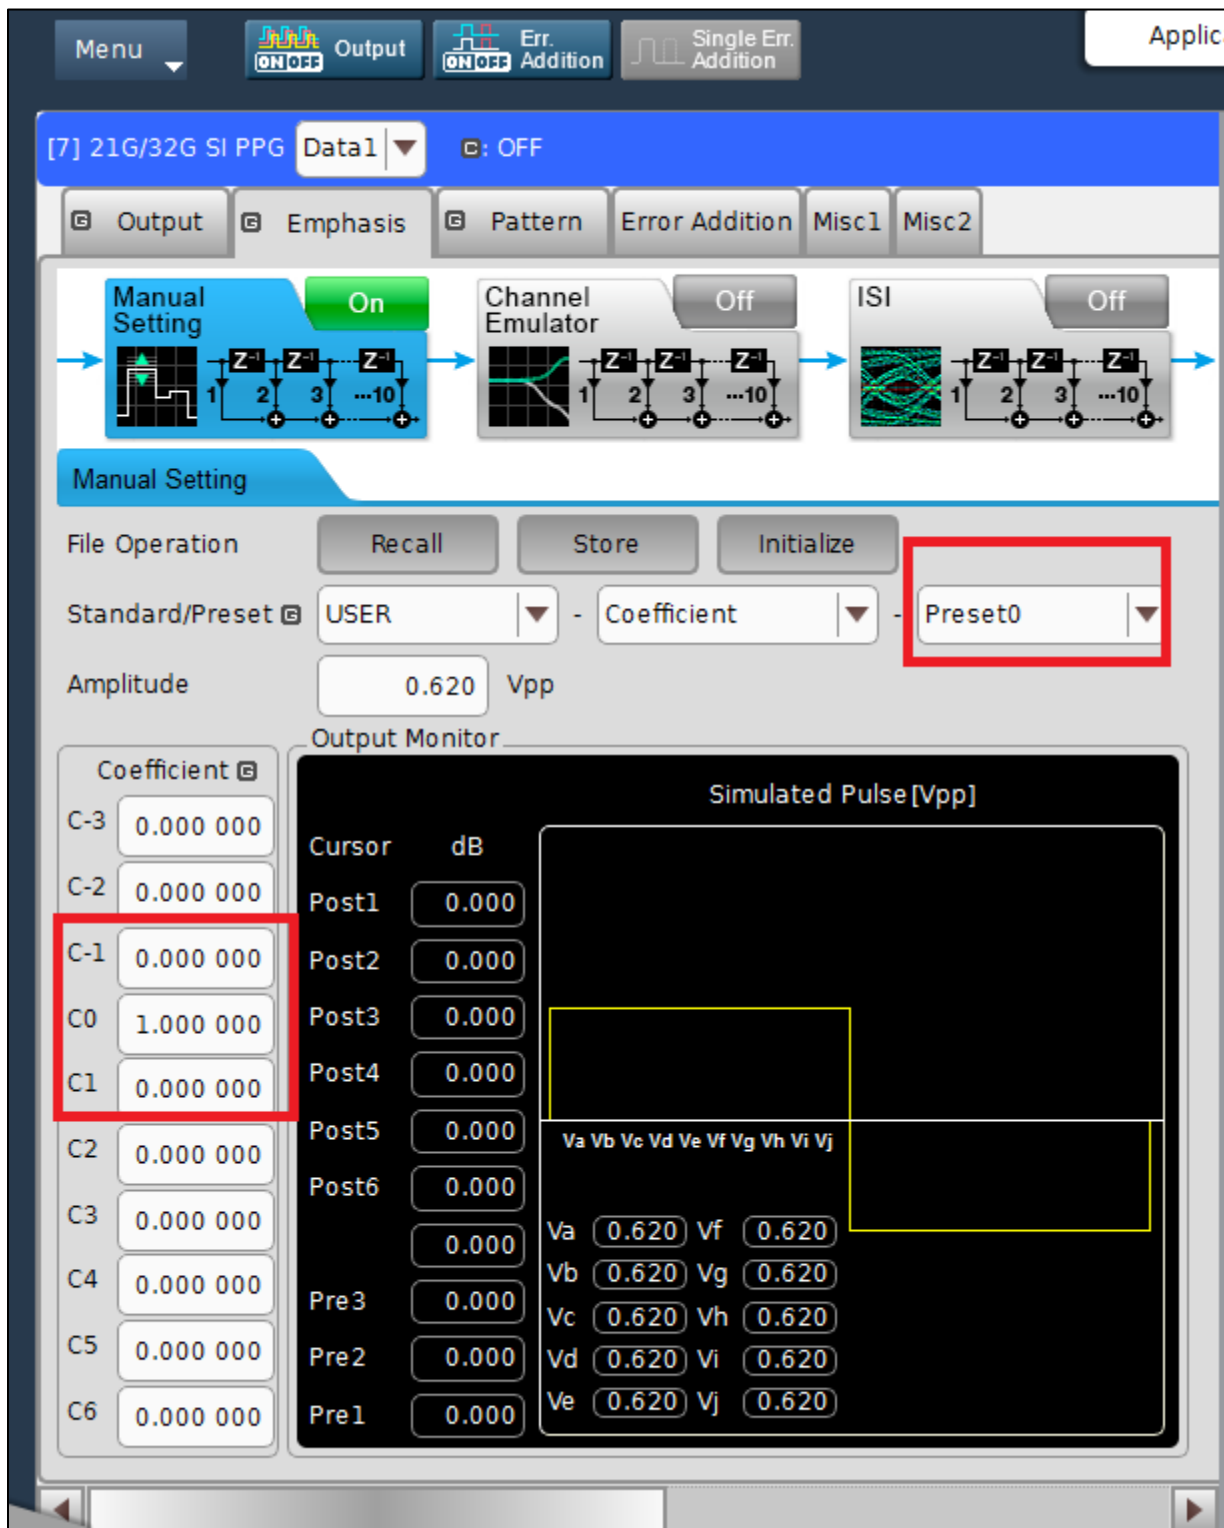

FIGURE 72. 4TAP EMPHASIS CH1 INTERFACE
- In 4Tap Emphasis Ch1 Menu, create 15 Presets with coefficients which match the Table in the DisplayPort 2.1 Specification. See Figure 72 below.